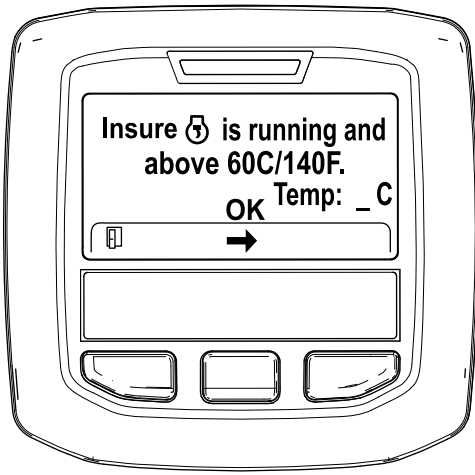

Figure 48
5. If the coolant temperature is below 60°C (140°F) the "Insure  is running and above 60C/140F" message displays. (Figure 48).